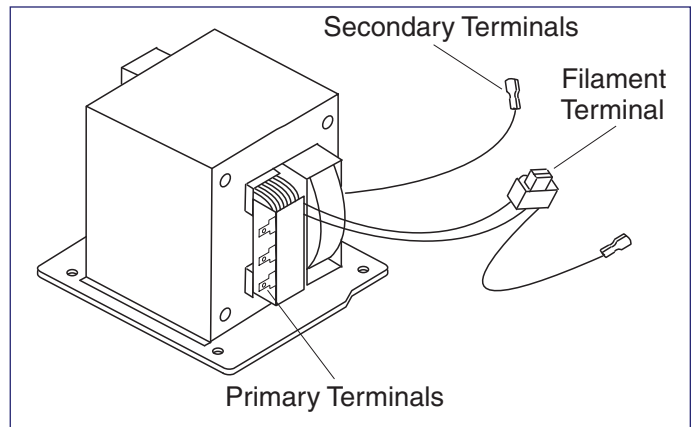

Figure 4-5. High Voltage Transformer Testing
1. Remove connectors from the transformer terminals and check continuity. (See Figure 4-5)